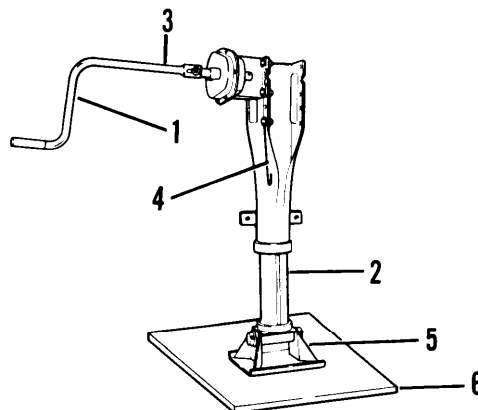

Figure 2-1. Landing Leg
a. Rotating handcrank (1, fig. 2-1) operates the landing gear. Turning the handcrank (1) clockwise lowers landing legs (2) for parking semitrailer.
b. Counterclockwise rotation raises legs (2) to towing position.
c. Pushing operating shaft (3) in engages low speed gear for ease and speed in raising or lowering legs (2).
d. Pulling operating shaft (3) out engages high speed gear for raising or lowering legs (2).
e. Crank stow bracket (4) holds the crank when not in use.
f. Landing gear shoe (5) keeps the legs (2) from sinking into the ground.
h. Float pads (6) (Ground Board Assembly). See para. 2-2.